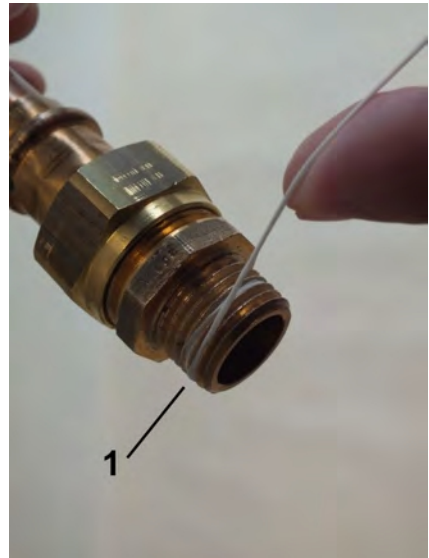

Fig. 9: Apply sealing strip
2. → Apply sealing strip (Fig. 9/1) to the napped thread in the thread-direction. Observe the quantity recommended by the sealant manufacturer